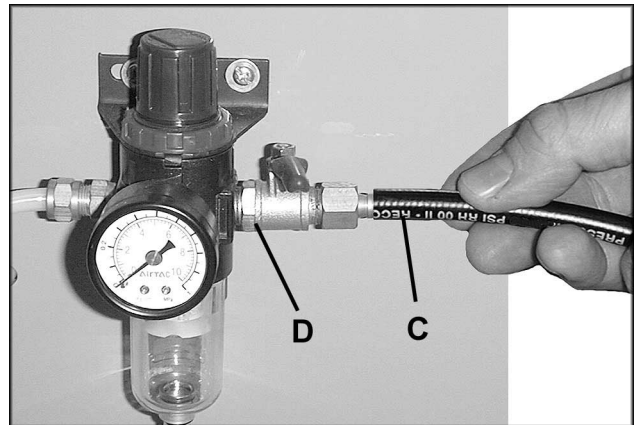

FIGURE 9
4. Attach the air line (C, Fig. 9) to the filter regulator (D, Fig. 9) mounted on the front of the machine. A maximum of 60 pounds air pressure is required.